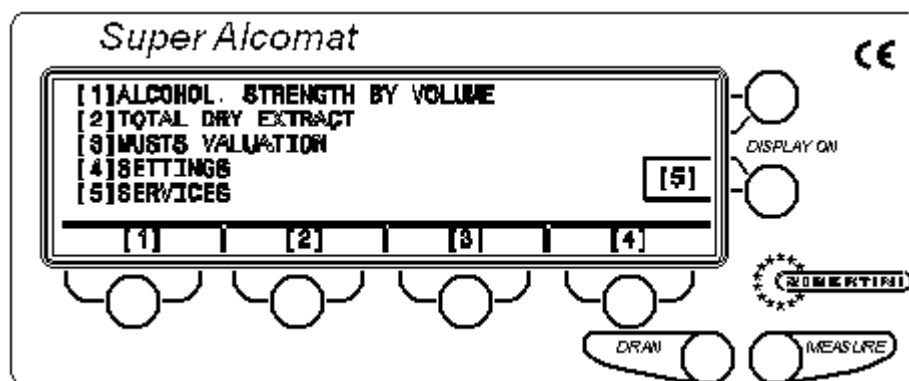

Fig. 4
When the Super Alcomat is ready to work, the display shows the MAIN MENU (see paragraph 4, Figure 4). The MAIN MENU presents now the different functions that can be performed by the Super Alcomat.
- select "Alcoholic Strength by Volume" from the main menu by pressing [1] (Figure 4), access to the option "Compensation" with the corresponding key (Figure 7);
- select "Alcoholic Strength by Volume" on the main menu by pressing [1] (Figure 4), then press [COMP.] to access the "Compensation" option (Figure 7) and press [H2O] (Figure 9);